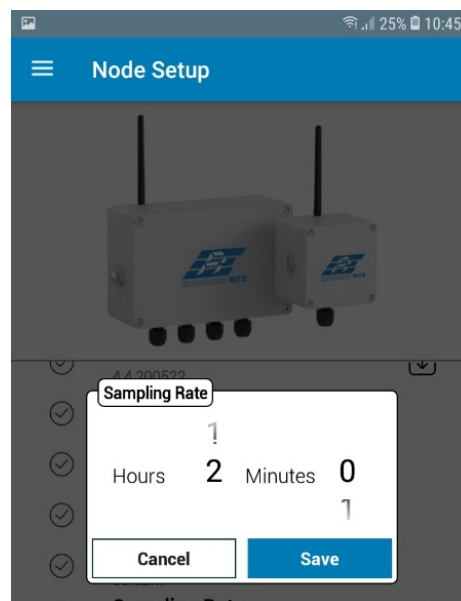

Figure 5-7
9. In case required, the 'Node Name' and 'Sampling Rate' inputs can be edited here by clicking on the pencil icon. Setting Sampling Rate is shown in figure 5-7. Please note that the sampling rate should be set between 1 minute to 2 hours. Factory setting is 2 hours.